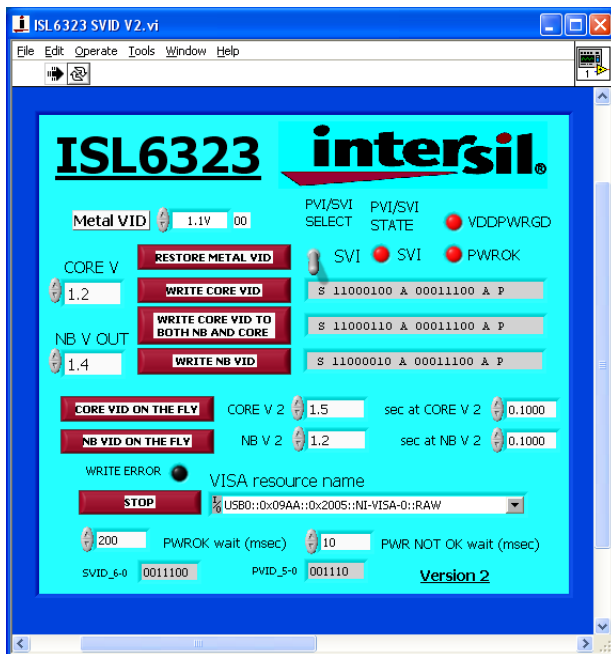

FIGURE 28. ISL6323 DESKTOP WINDOW
1. Connect the ISL6323EVAL1Z evaluation board to the USB port of the PC. The ISL6323 application will be available in START → ALL PROGRAMS. Run the application. Once the software has started, the window on the computer desktop should look like Figure 28.
Figure 28 shows a successful initiation of the communication software. Communication between the PC and the evaluation board is known to be active because there is an address in the "VISA resource name" box and the "WRITE ERROR" LED is dark. If the software was unsuccessful in establishing communications with the evaluation board, the "WRITE ERROR" LED would be lit red and the "VISA resource name" box may or may not be blank.